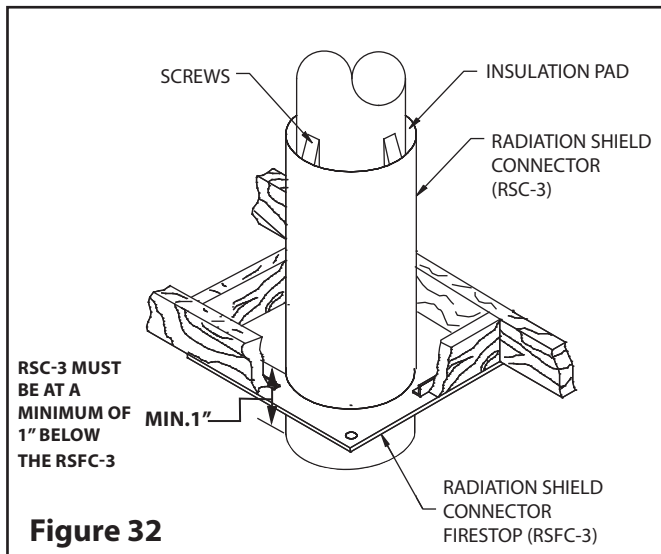

Figure 32
Step 8. At the ceiling level, install a Radiation Shield Connector (RSC-3) and a Radiation Shield Firestop (RSFC-3) on the chimney (see Figure 32). Slide the Radiation Shield Connector down until the bottom of the insulated tube passes just through the Radiation Shield Firestop as shown in (see **Figure 32**). Adjust the height until a minimum of (1") of the Radiation Shield Connector passes through the firestop below. Fix it to the chimney from the attic side using (3) - 1/2" self-tapping screws. The Telescopic Shield is then slid upwards to the ceiling and attached to the bottom of the Radiation Shield Connector using (3) - 1/2" self-tapping screws.